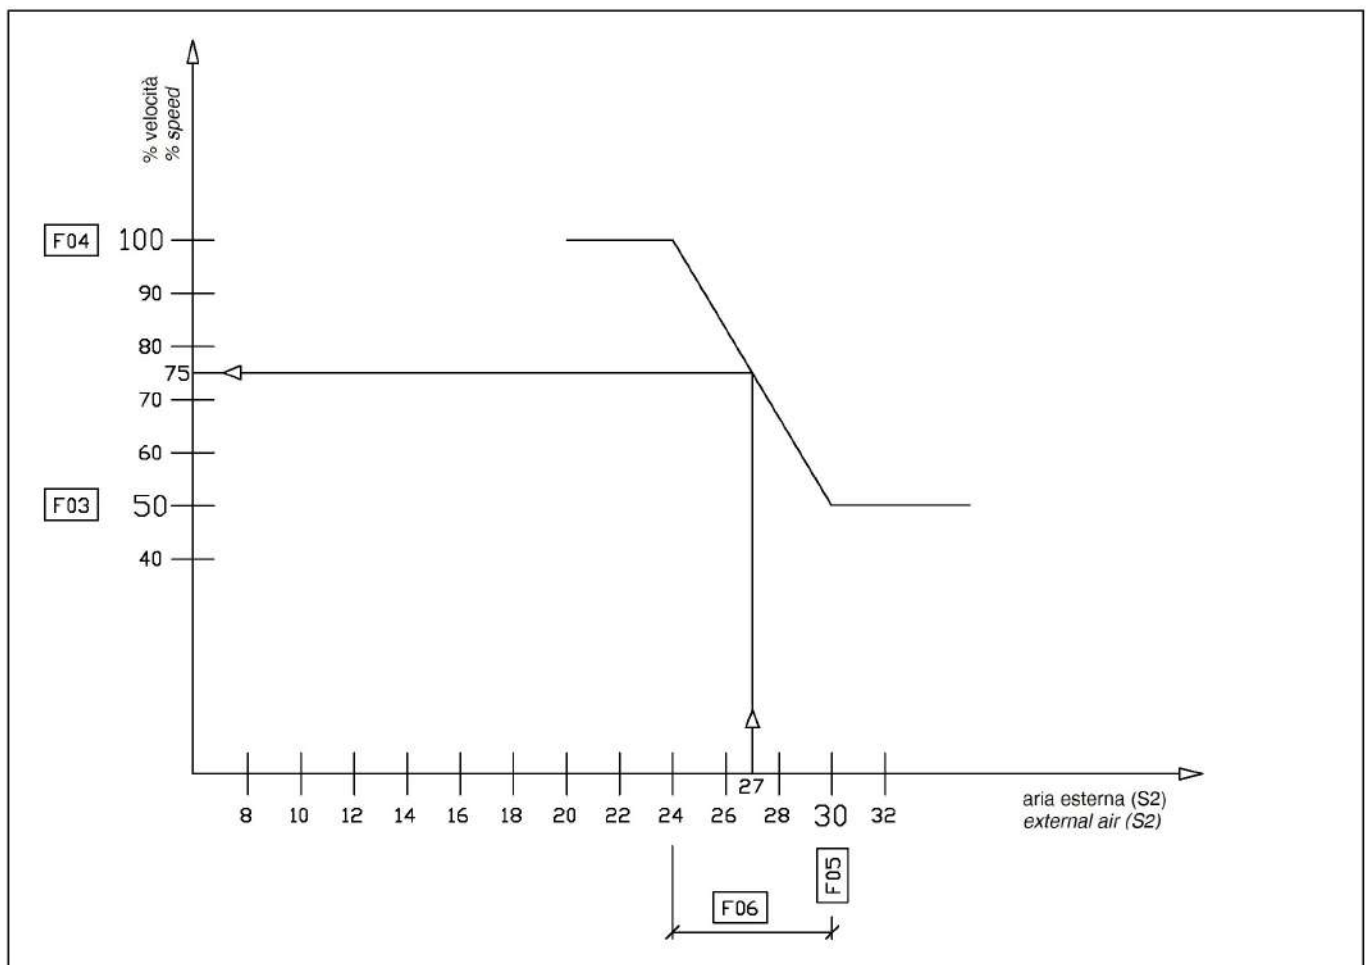

fig.16
**GESTIONE VENTILATORE (ramo FAn) (fig. 16)**
FAN MANAGEMENT (Menu Fan) (fig. 16)